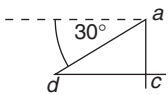
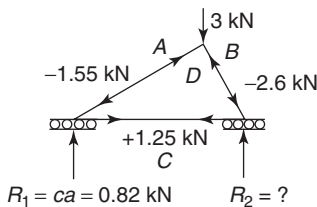

Figure 4.11
Figure 4.12
To determine the unknown forces in the horizontal member between joints (1) and (2), either of these joints can be considered, as both joints now only have two unknown forces. Let us consider joint (1), i.e. joint  $ADC$ . Now the vector  $ad$  can be measured from Figure 4.9 and drawn to scale in Figure 4.11.
Now the unknown force between the spaces  $D$  and  $C$ , namely the vector  $dc$  is horizontal and the unknown force between the spaces  $C$  and  $A$ , namely the vector  $ca$  is vertical, hence, by drawing to scale and direction, the point  $c$  can be found. This is because the point  $c$  in Figure 4.11 lies below the point  $a$  and to the right of  $d$ .
In Figure 4.11, the vector  $ca$  represents the magnitude and direction of the unknown reaction  $R_1$  and the vector  $dc$  represents the magnitude and direction of the force in the horizontal member at joint (1); these forces are shown in Figure 4.12, where  $R_1 = 0.82$  kN and  $dc = 1.25$  kN.